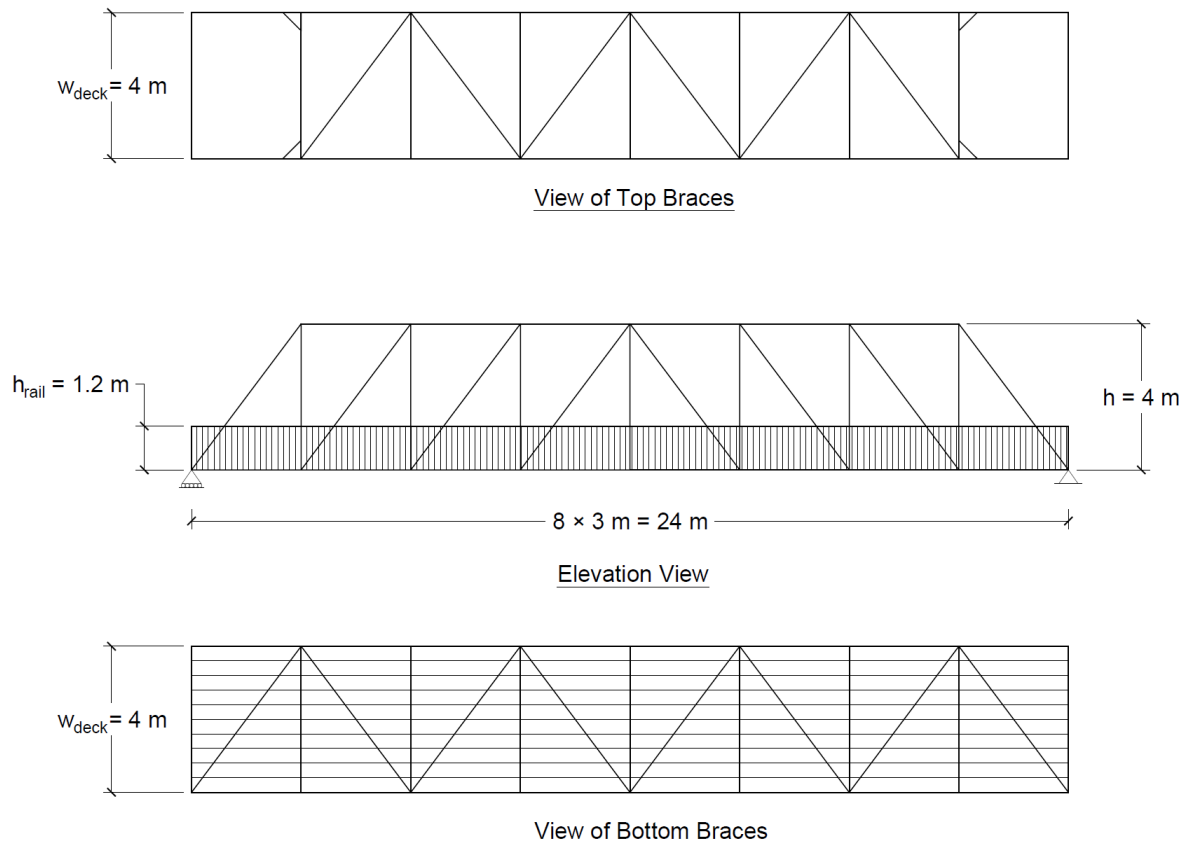

Fig. 1 – Truss Bridge used in Questions 1-2
1. Fig. 1 shows the preliminary geometry of a pedestrian truss bridge. Assume that the bridge shown in Fig. 1 is carrying a gravity load of 10 kPa and a wind load of 2 kPa, perform the following: